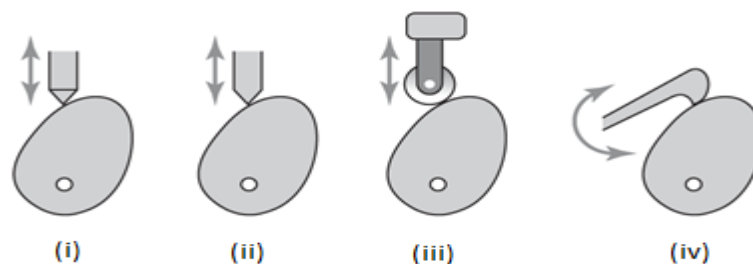

Figure 6: Cam Follower
- (d) Identify a type of cam follower based on **Figure 6**.